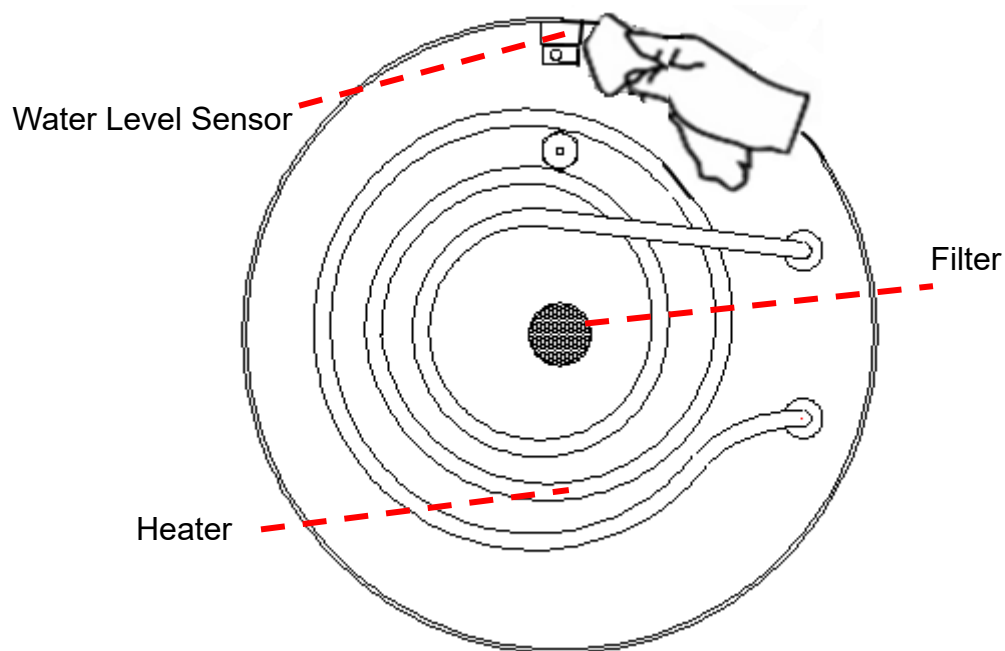

Figure 54
- Use the non-corrosive cleaner and stiff bristled brush or sponge to clean the water level sensor at the bottom of the chamber as Figure 54.
- Clean the dirt off at filter of the bottom of the chamber as Figure 54.